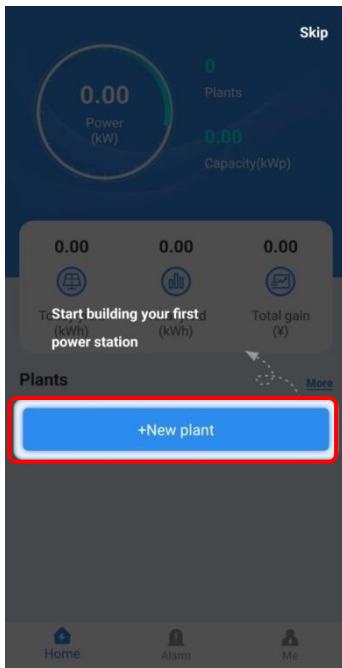

Figure4-2 Main page
Step 4 After entering the main page, it will show the prompting "**Start building your first power station**", click "**+New plant**" to built a new plant, as shown in Figure4-2.